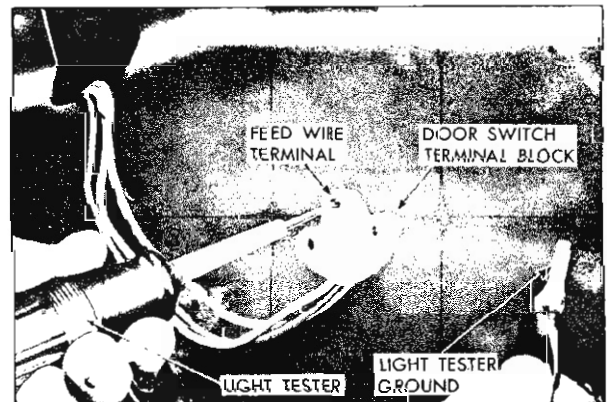

Fig. 9-3 Checking Feed Circuit
1. Connect one light tester lead to feed terminal of switch block and ground other tester lead to body metal Fig. 9-3.